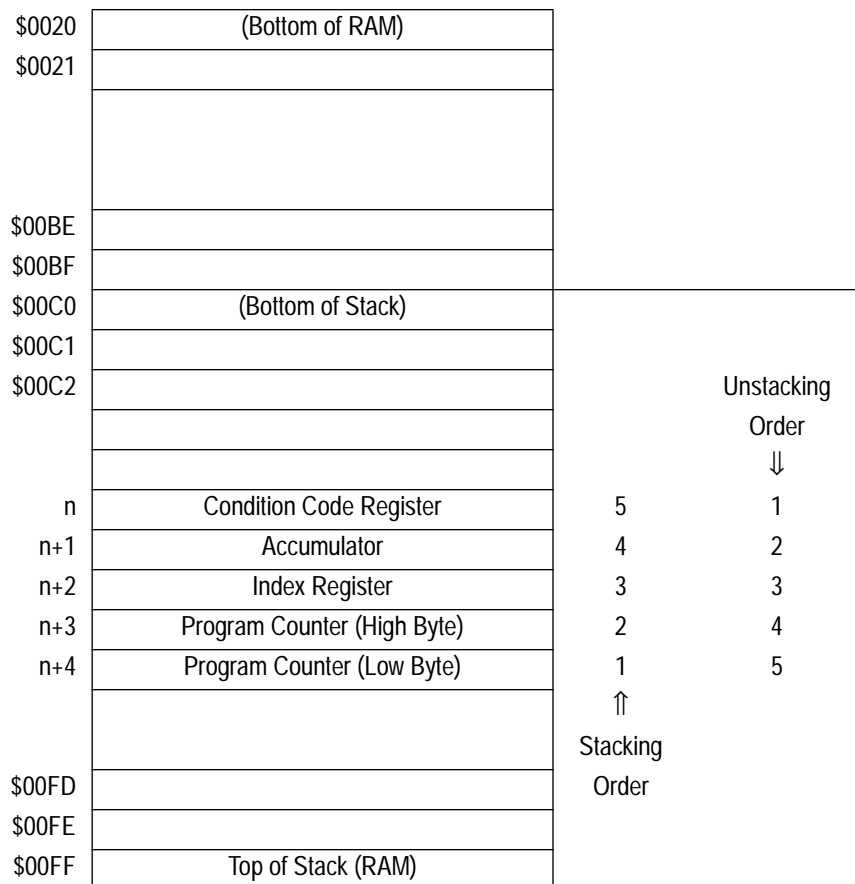
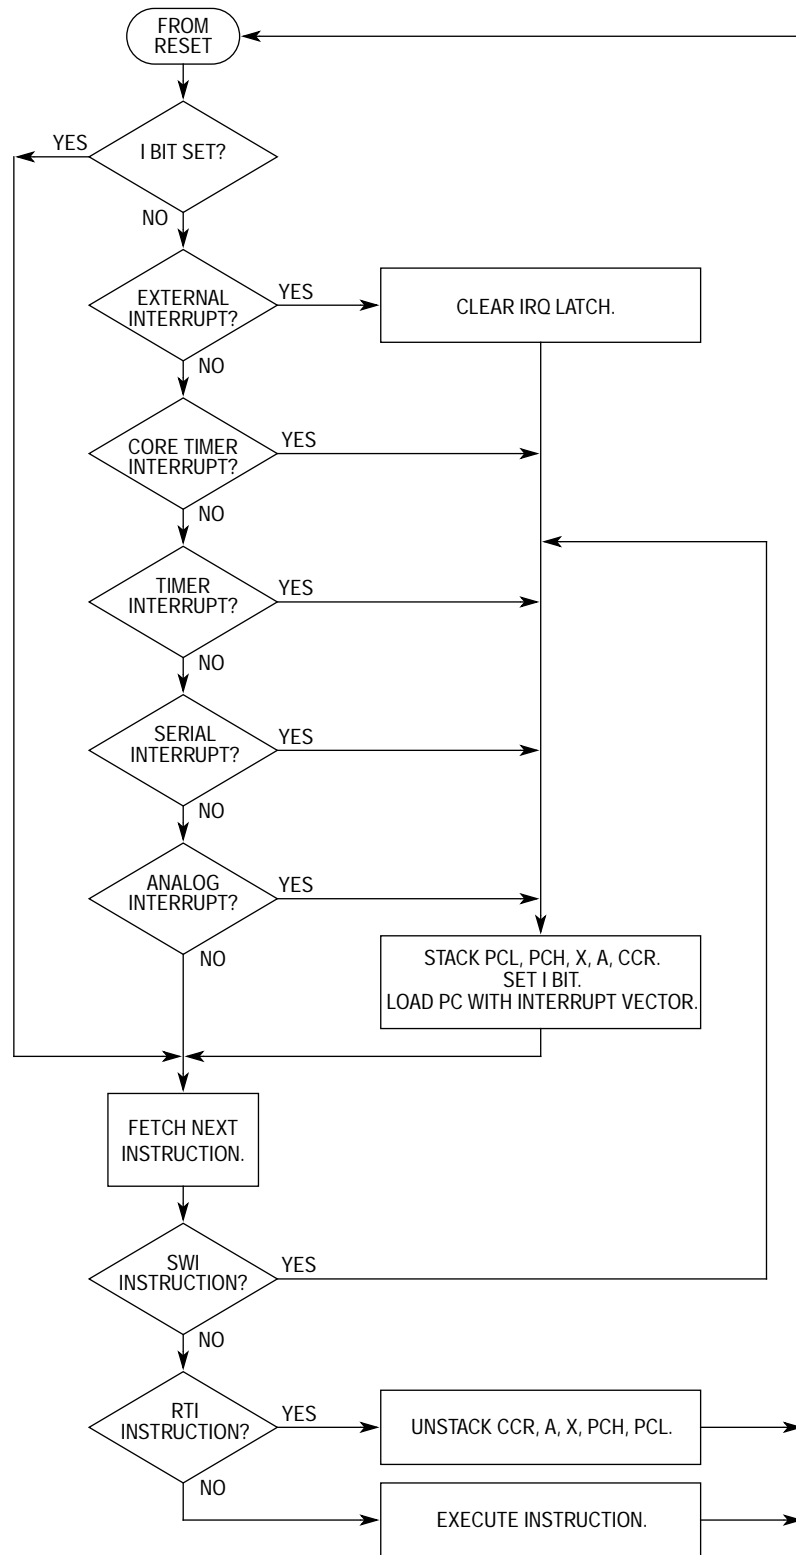

Figure 4-1. Interrupt Stacking Order
Figure 4-2. Interrupt Flowchart
- Stores the CPU registers on the stack in the order shown in **Figure 4-1**
The return from interrupt (RTI) instruction causes the CPU to recover its register contents from the stack as shown in **Figure 4-1**. The sequence of events caused by an interrupt is shown in the flow chart in **Figure 4-2**.